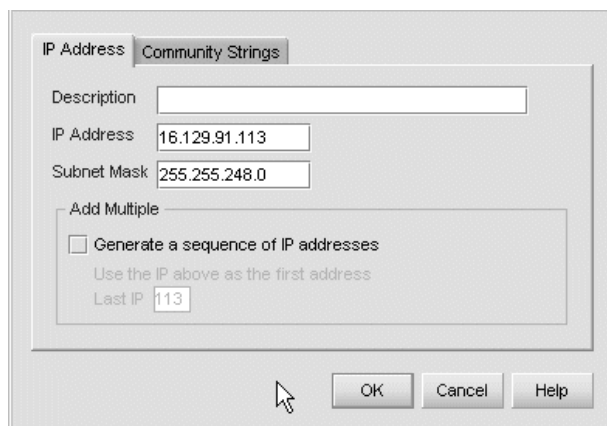

Figure 15: Domain Information dialog box (IP Address Page)
2. Click **Add**. The Domain Information dialog box displays with the IP Address page open by default (Figure 15).